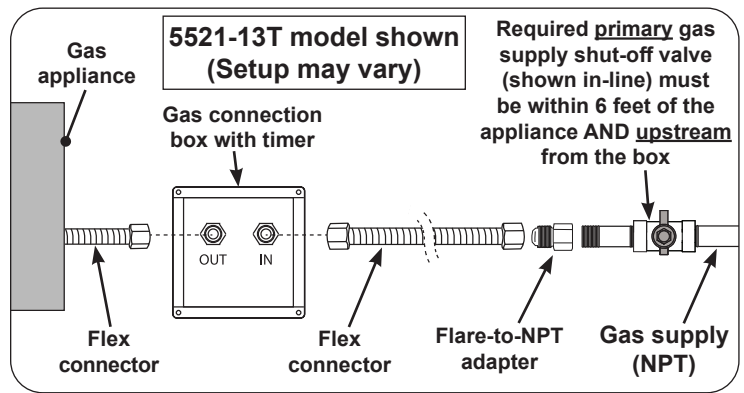
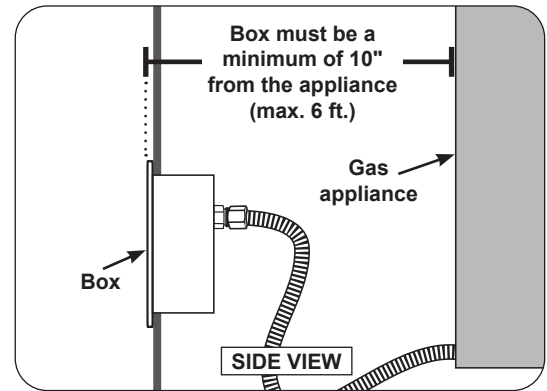

Fig. 2-1 Box installation overview
Fig. 2-2 Box clearance
- Reference Fig. 2-1 on next page.
Follow **ALL** information found in the **INSTALLATION REQUIREMENTS** section, the gas appliance owner's manual, Fig. 2-1, and Fig. 2-2.